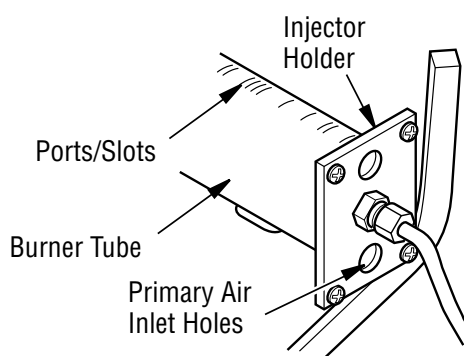

Figure 42 - Injector Holder On Outlet Burner Tube
2. Inspect burner, pilot, and primary air inlet holes on injector holder for dust and dirt (*see Figure 42*).